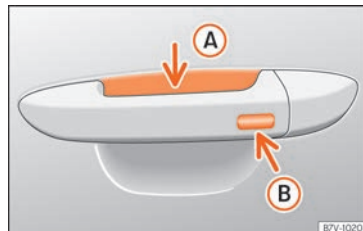

Fig. 130 Driver door lever: sensor surfaces.
• Press and hold the locking sensor surface » » Fig. 130 (B) on the door handle to close the sunroof. If you release the sensor surface, the closing movement stops.